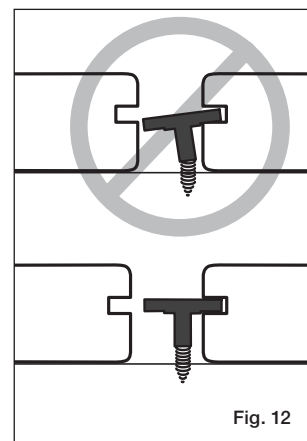

Fig. 12
**Step 3** On the other side of the board, place a Stowaway hidden fastener into the groove and center on the joist (Fig. 12). Install the preset screw at a 90° angle through the Stowaway fastener and drive flush. Do not over-tighten. The fastener wings must remain level with the joist for the next board to fit correctly (Fig. 12).